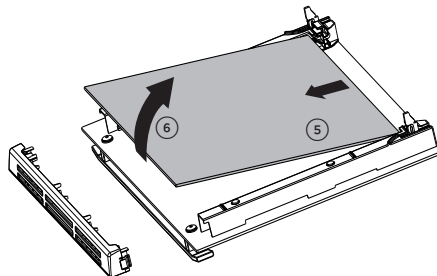

Fig. 39
- Gently lift and pull out the middle pane of glass by releasing it from the bottom retaining notches (fig. 39).